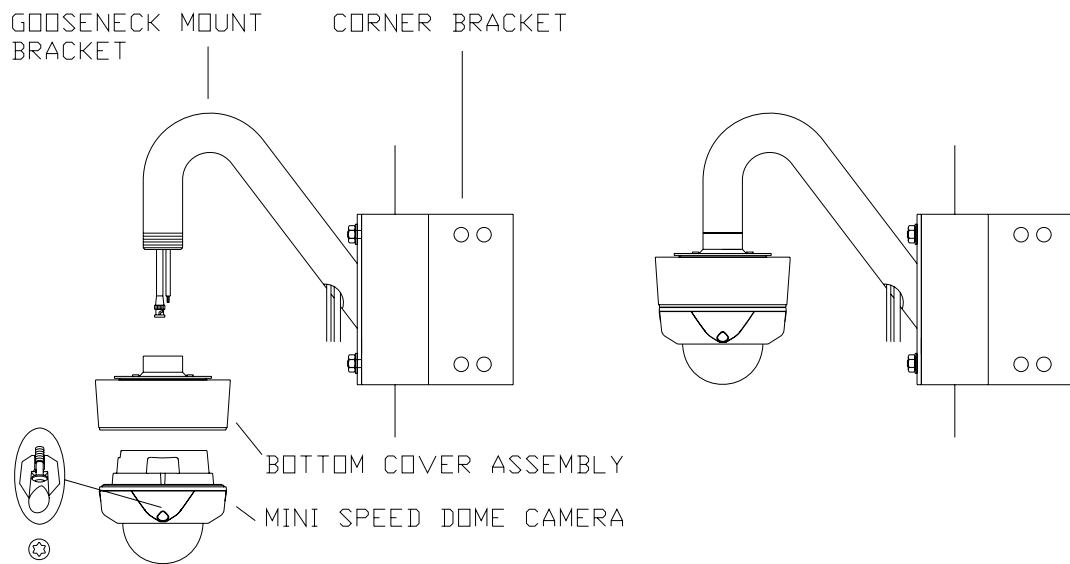

FIG.23
6. After driving a bottom cover assembly to gooseneck mount bracket, as shown on FIG.23,
assemble mini PTZ with bottom cover assembly. (FIG.23)